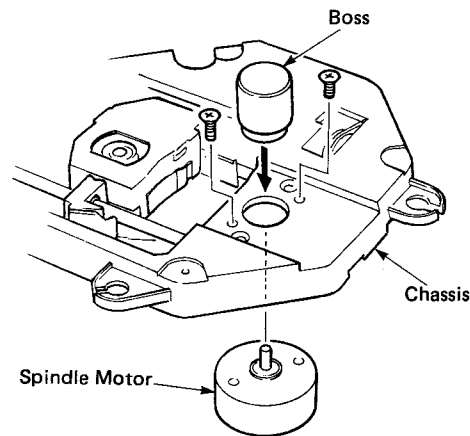

Fig. 6
- a. Put the boss into the hole in the chassis as shown in Fig. 6 and bring the spindle motor from underside of the chassis so that the spindle fits in the hole in the boss. After making sure that the spindle motor is positioned properly, tighten the screws.